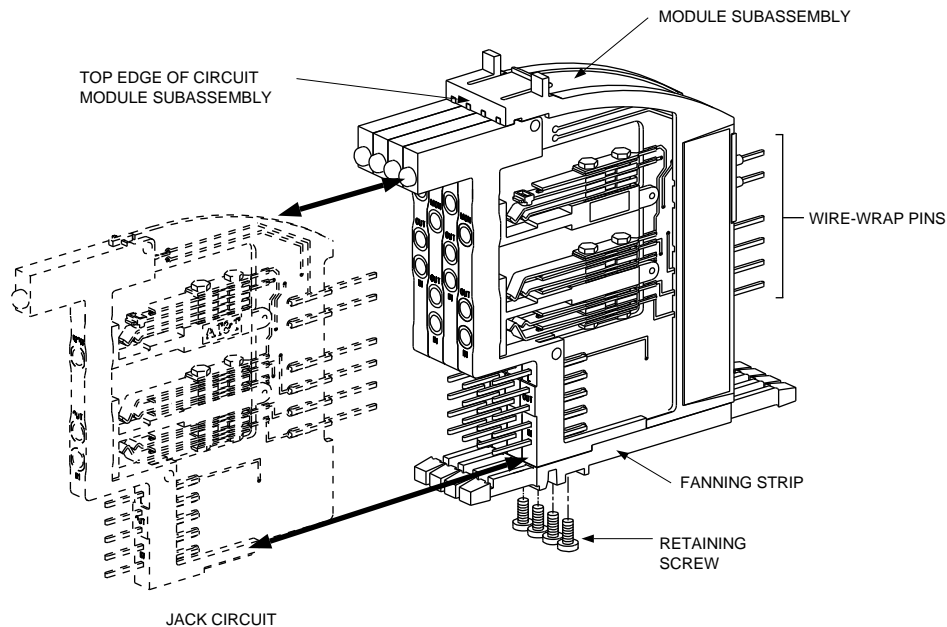

Figure 3. Installing and Removing Jack Circuit
2. Remove retaining screw located on bottom of the module's fanning strip (see Figure 3 on page 5).
1. Insert circuit into desired slot in module subassembly until circuit *snap-locks* into place (see Figure 3).